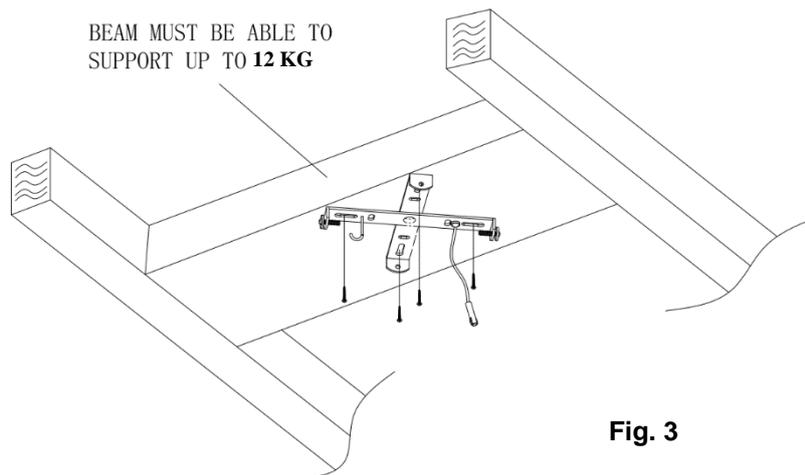

Fig. 3
- Install the hanging bracket to the ceiling joist or structure that is capable of carrying a load of at least 12 kg, with four long screws provided. Ensure at least 30mm of the screw is threaded into the support. (Fig. 3)